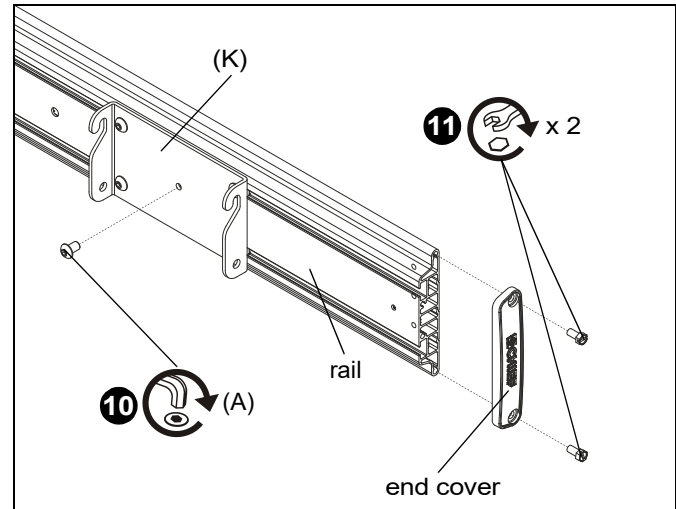

Figure 7
10. Install 5/16-18 x 1/2" button head cap screw (A) to secure quick connect bracket (K) to rail. (See Figure 7)
11. Replace end cover removed in Step 8 using two removed screws. (See Figure 7)